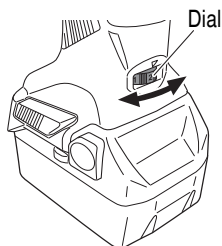

Fig. 8
7. Adjusting operating speed (Fig. 8)